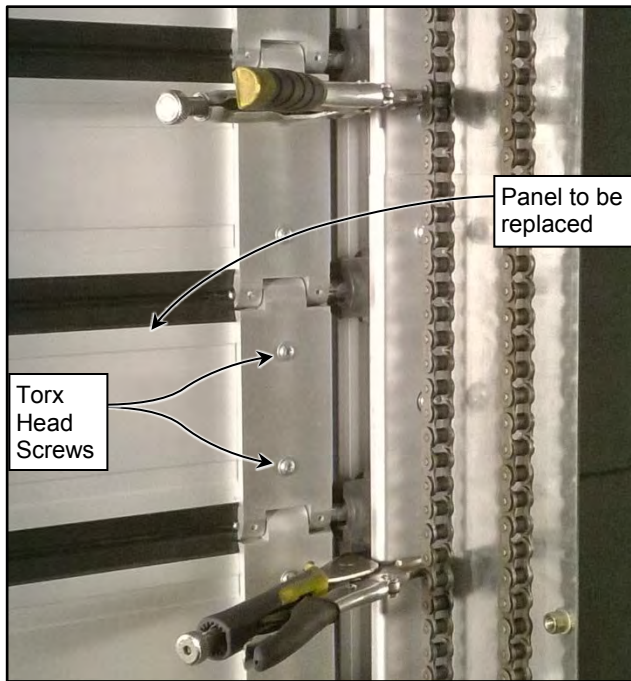

Figure 42
- Position clamps along both edges of the door above and below the panel to be removed to prevent unexpected door movement. (See Figure 42)